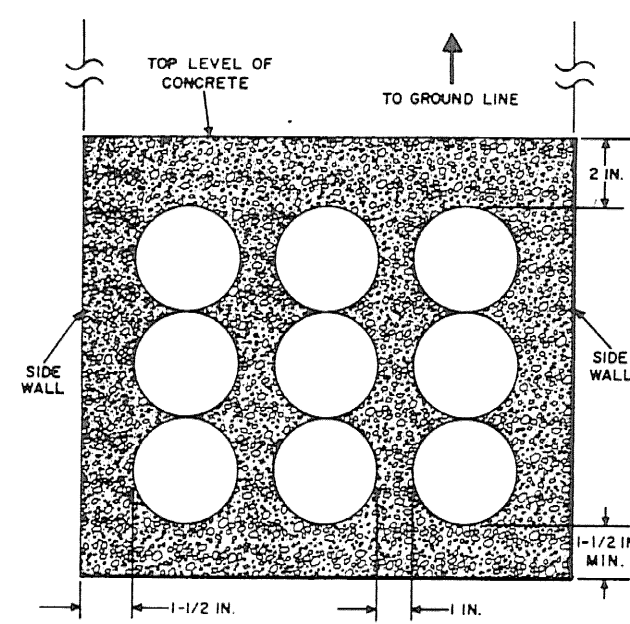

Fig. 2—Trench Dimensions—No Vertical Separation
4.04 Table A indicates the trench width, concrete depth, and volume of concrete required for various duct formations where there is no vertical separation and 1-inch horizontal separation between ducts. Figure 2 illustrates a nine-duct formation of this type in a straight conduit section.